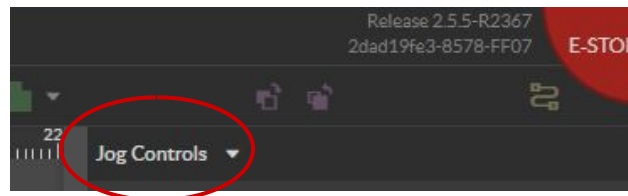

Fig. 19
2. In RE3, go to the top right section of your browser and locate the jog Controls.(See Fig. 19)